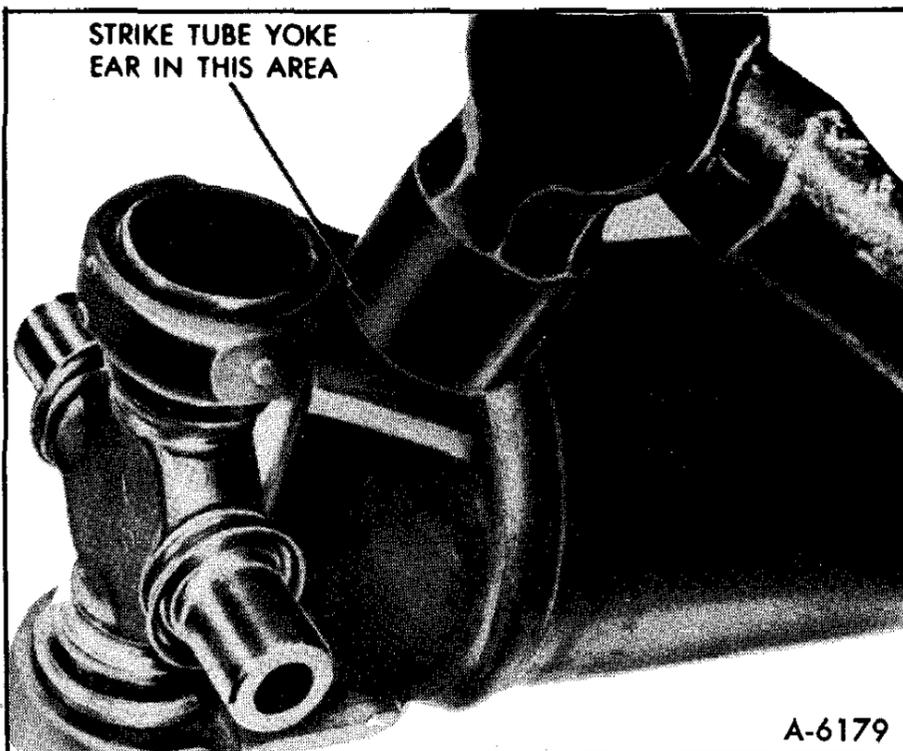

Figure 2—Seating the Snap Rings
**NOTE:** If difficulty is encountered in seating snap rings, strike the yoke firmly with a hammer to aid in seating the snap rings. This springs the yoke ears slightly (figure 2).